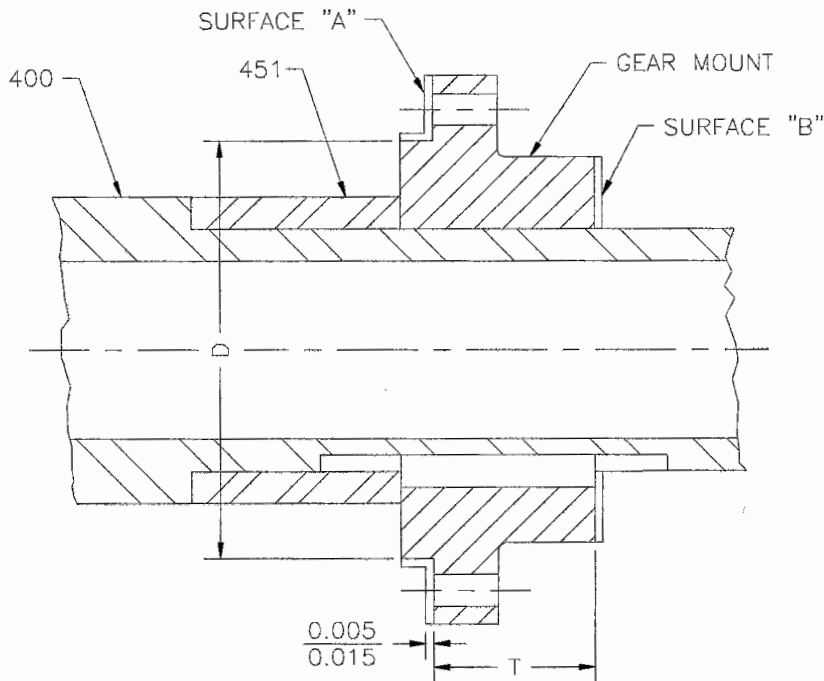

FIGURE 7
11.0 Machining of New Gear Mount. (Refer to Figure 7)